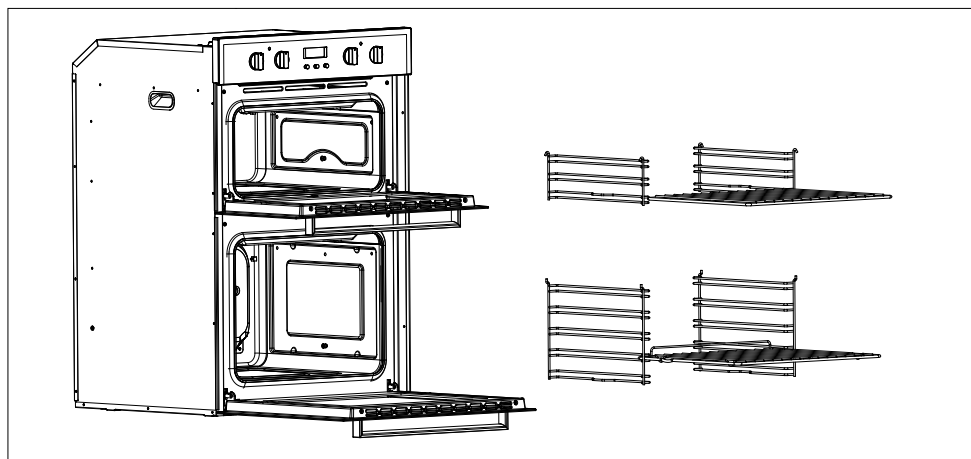

Figure 2.
- » Remove the side racks (see section below and Fig.2)
- » Finally, re-fit the side racks (See below and Fig.2)